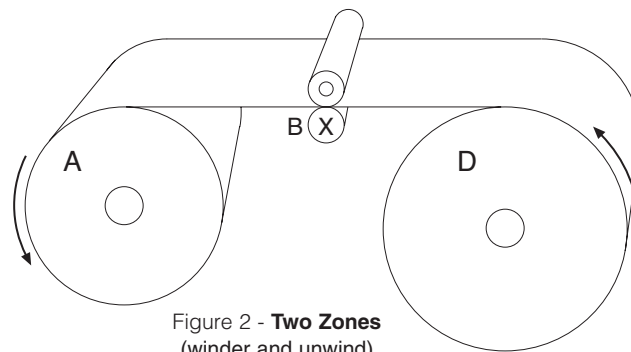

Figure 2 - Two Zones (winder and unwind)
II. More commonly, a machine will have driven nip rolls in the center, or processing section (see Fig. 2). A simple slitter/rewinder is an example. In this case, there are two separate tension zones to deal with and the tension levels may be different in each zone. Different tension levels are possible because the web is captured at the driven nip rolls, thus creating separate and distinct unwind and rewind zones. The driven nip rolls (B) will typically be powered by a motor drive that establishes machine line speed. Processing tension will be controlled by a brake system at the unwind (D), and a clutch or motor drive will control the winder tension (A). Again, the method of control will be dictated by the accuracy of tension control required in each zone. If process tension levels can vary by 10% or greater, a simple open loop brake control system may suffice. More accurate control would require a closed loop system, such as dancer or load cell feedback. Likewise, in the winder zone, open loop control may be sufficiently accurate, or closed loop or tape